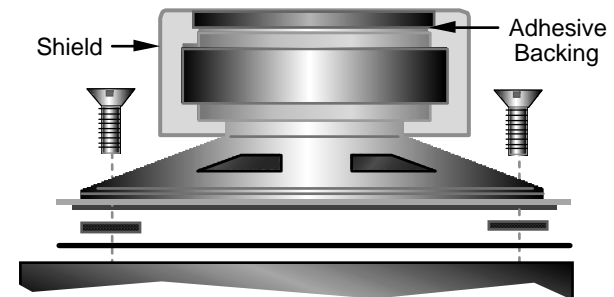

Figure 35
- Place the speaker on top of the grille cloth and fibre washers (Figure 35). Align the speaker frame with the front and side edges of the heat sink. **The speaker terminals should face the front, as shown in Figure 33 (previous page).**
- Secure the speaker using 4-40 x 3/16" (4.8 m) **black, flat head** screws (Figure 35.) Do not use lock washers.
- Locate the speaker shield. Remove the backing from the self-adhesive pad inside the shield (Figure 35). Install the shield over the speaker magnet, keeping it approximately centered.